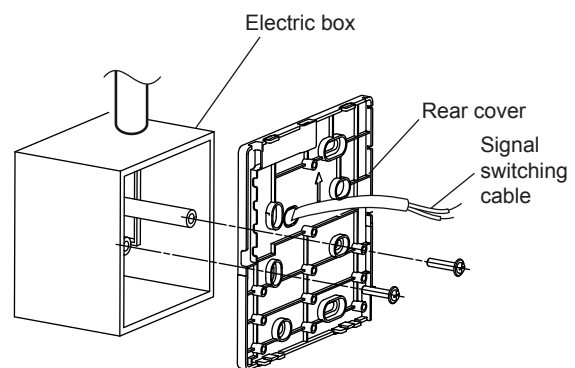

Fig. 5.4
4. Tighten the rear cover to the electric box, making sure that the cover rests on the wall.(fig.5.4)